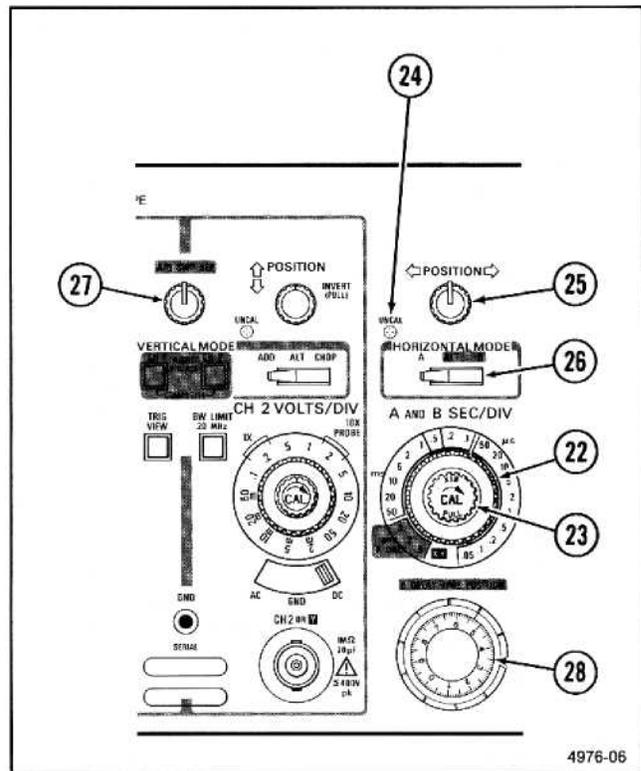

Figure 2-5: Horizontal controls and indicator.
Refer to Figure 2-5 for location of items 22 through 28.